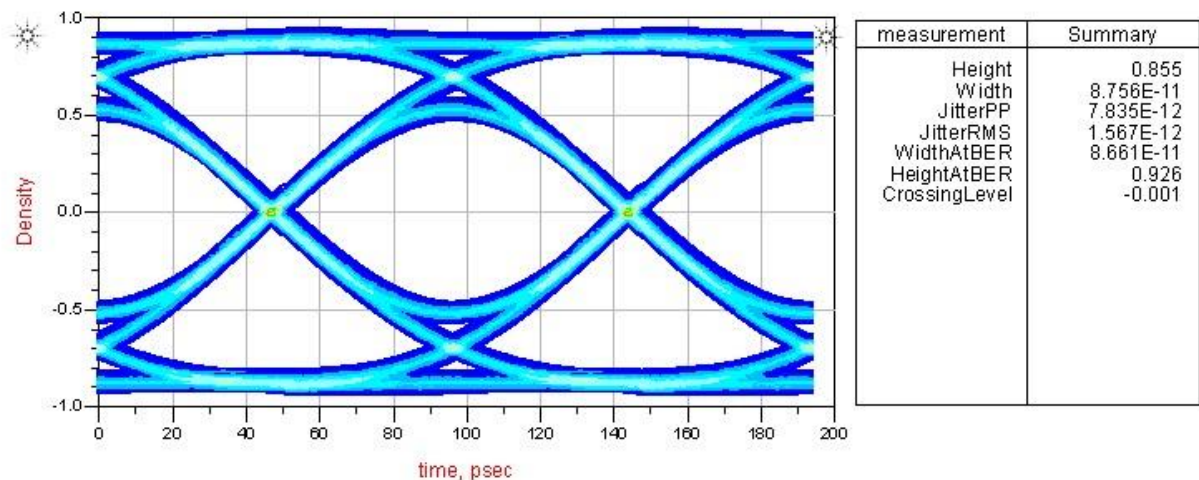

Figure 4: Eye plot for ASIC TX to DS1xxDF410 RX link with RX\_Config=2
8. The eye plot will appear in the plot window, as shown in Figure 4. Note that this is a plot of the eye as it appears after the DS1xxDF410's CTLE and DFE equalization but before the retiming function, TX de-emphasis, and VOD are applied. This plot will be equivalent to the input to the decision slicer. It is also possible to simulate and plot the output of the decision slicer (by setting RX\_Config=0), however doing this will not give you visibility into the receiver's eye opening margin.